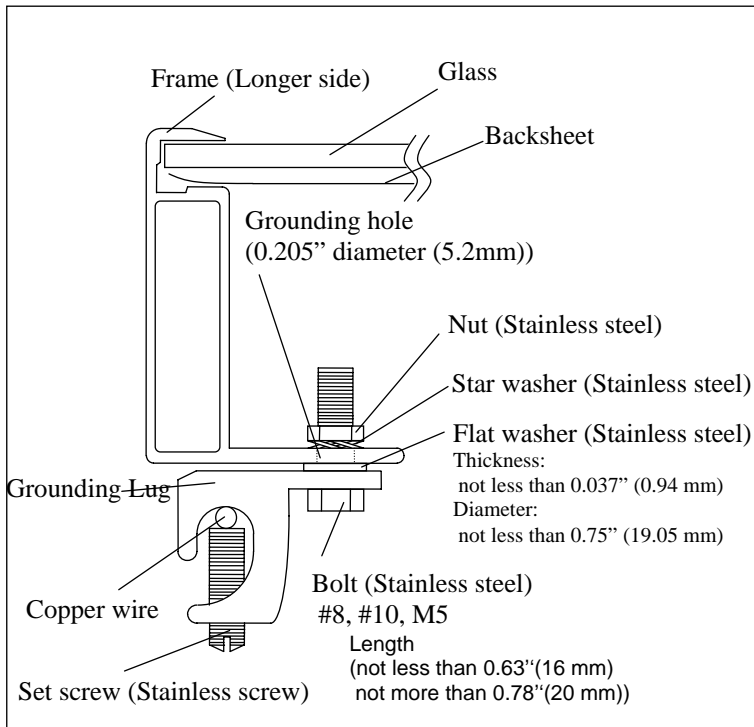

Figure 3.5 (Method 4)
- Attach grounding lug to module frame using a stainless steel bolt and lock-nut as shown in figure 3.5